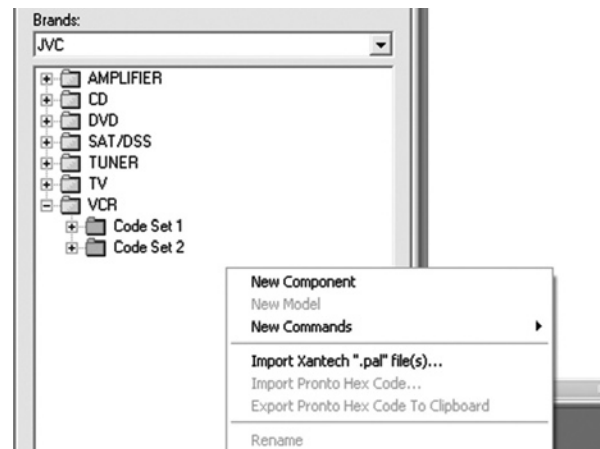

Figure 74 Selecting 'Import Xantech ".pal" file(s)...'
- Under **CMD Library** in Proficient Editor, select the Brand name that is the same as the .pal file you are importing (i.e., JVC). Refer to **Figure 74**.